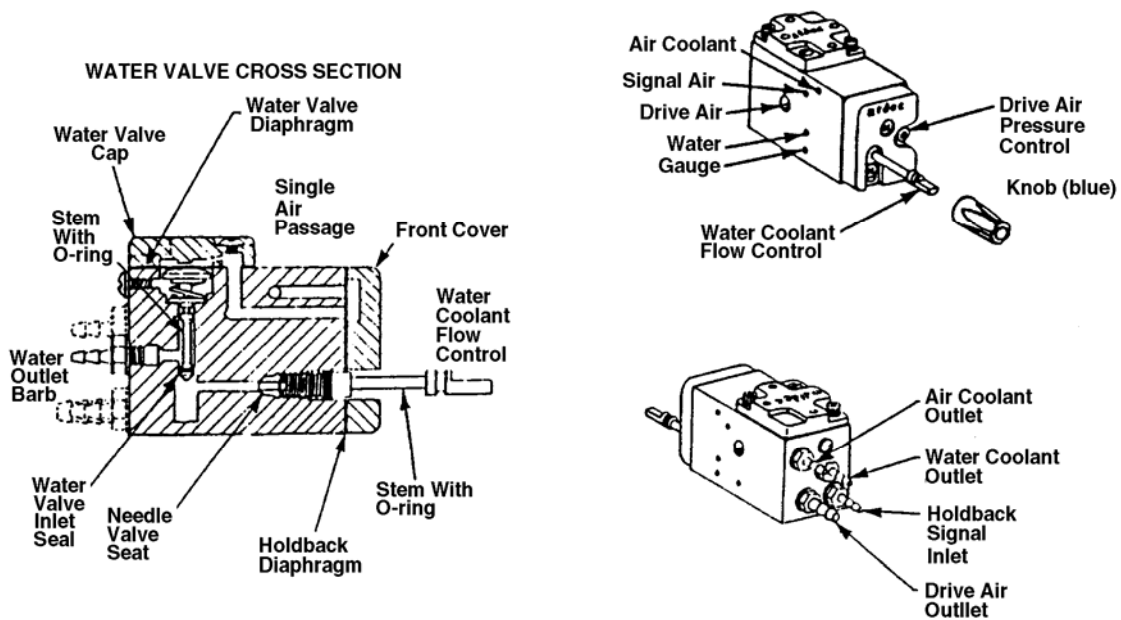

Figure 5-4. Water valve cross section.
- (1) Turn the master On-Off valve OFF.
- (2) Remove the cover from the water relay valve.
- (3) Remove and inspect the water relay diaphragm.
c. **Air Bubbles in the Coolant Water.** Refer to figure 5-4.
- (1) Determine if there is a defective O-ring on the connector tube at the syringe terminal. Refer to 5-2a(1) above.
- (2) Determine if there is a defective water regulator. Refer to 5-2a(2) above.
(6) Verify that the diaphragm on the control block is not defective and that the holder is not defective. Refer to figure 5-4.